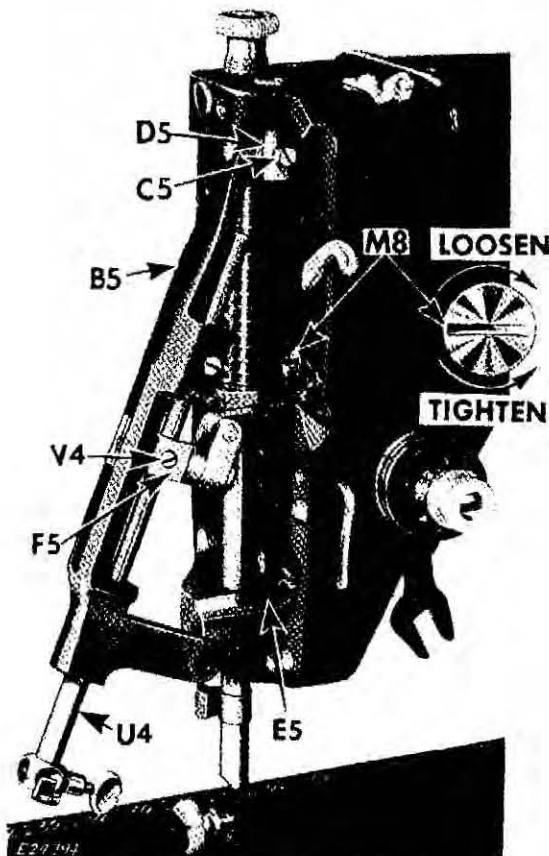

Fig. 69. Needle Bar Holder Removal and Replacement
5. Care should be taken not to lose floating spring **E5**, Fig. 69 which gives sidewise tension to needle bar holder.
6. Turn hand wheel clockwise until a screwdriver can be easily inserted into slot of cap screw **M8**, Figs. 69 and 70. Then turn cap screw clockwise and remove it.
7. Remove hinge screw **C5**, Fig. 69 from supporting bracket **D5** and remove needle bar holder.
2. Place top of needle bar holder **B5, Fig. 69** into supporting bracket **D5**. Then insert hinge screw **C5** and tighten carefully to avoid stripping threads. (Use finger tip pressure.)
3. Place top of connecting link on thread take-up crank and turn cap screw **M8, Figs. 69 and 70** counter-clockwise and securely tighten.